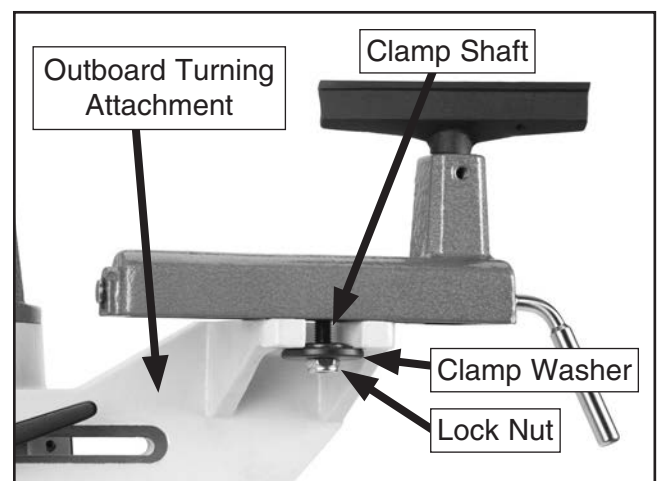

Figure 34. Outboard mounting.
5. Lift the tool rest from the lathe bed and reposition it on the outboard turning attachment so that the clamp shaft protrudes through the gap in the outboard turning attachment (**Figure 34**).